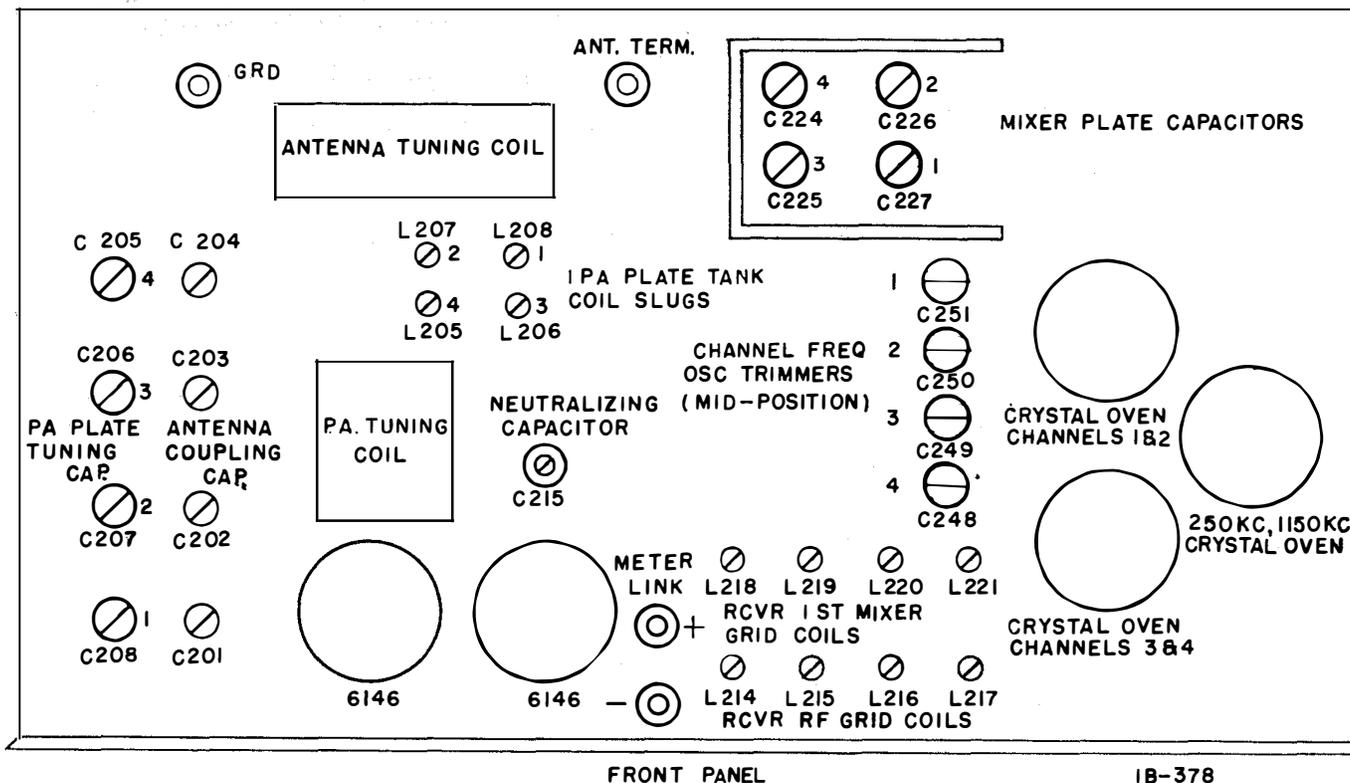

Figure 8. Location of Channel Alignment Components on Transmitter-Receiver Chassis
All components mentioned in the following procedures may be located by referring to figure 8.
b. Set CHANNEL FREQ OSC TRIMMERS 1 (C-251), 2 (C-250), 3 (C-249), and 4 (C-248) midway between their fully clockwise and counterclockwise limits (screwdriver slots parallel to front panel as shown in figure 8).
Components are numbered 1 through 4, corresponding to their respective channels. All components may be located by referring to figure 8.